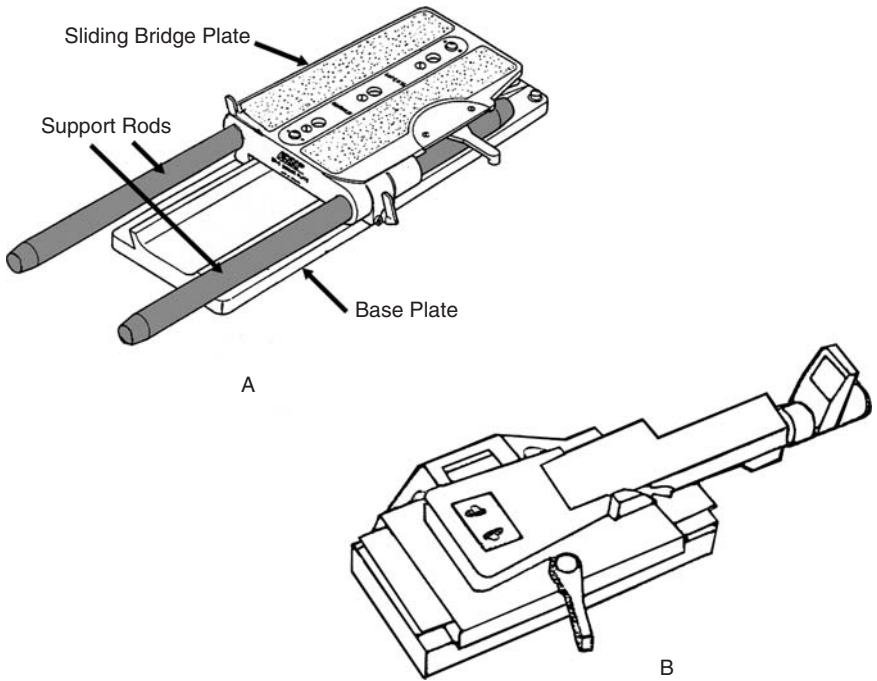

Figure 4.1 A, Arriflex sliding base plate. (Courtesy of ARRI Inc.)
- Camera adapter plate slides smoothly and locks in all positions (see Figure 4.1).